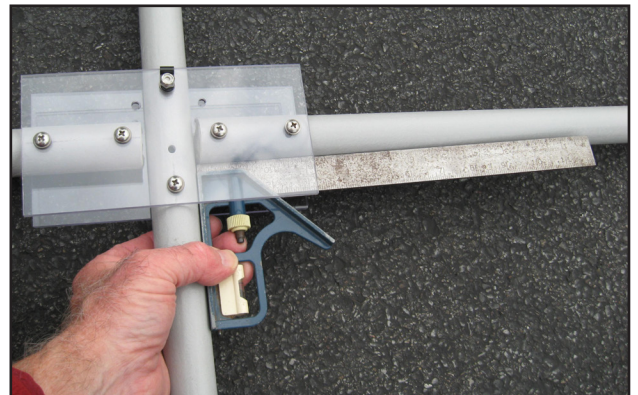

Fig. 61
- Repeat the steps previously used to position the elements of the Driven Element Assembly to position the elements of the Reflector Element Assembly. Verify that the elements are square with the Boom End Assembly. Tighten all six (6) fasteners well. See Fig. 61.